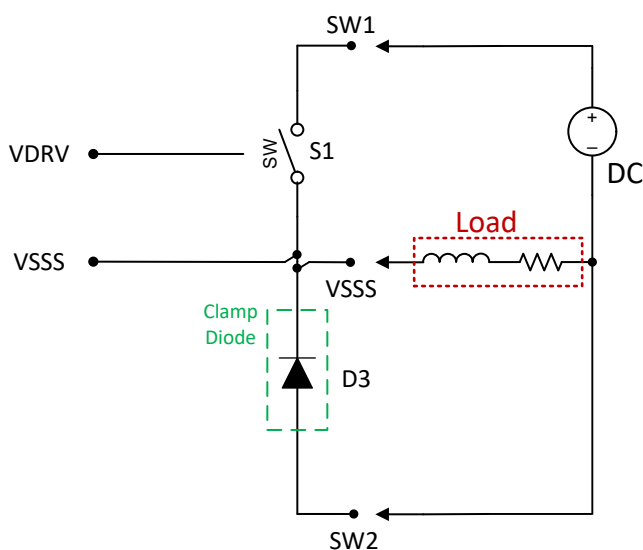

Figure 4-5. RL Load
- a. Figure 4-5 shows a possible load configuration for a highly inductive load. The setup can be accomplished using a Q1 (MOSFET) or D2 (SCR) for S1 (switching component). This setup has footprints to add D3, which can be used as a clamping diode to provide a connection to ground when S1 switches off the inductive load.